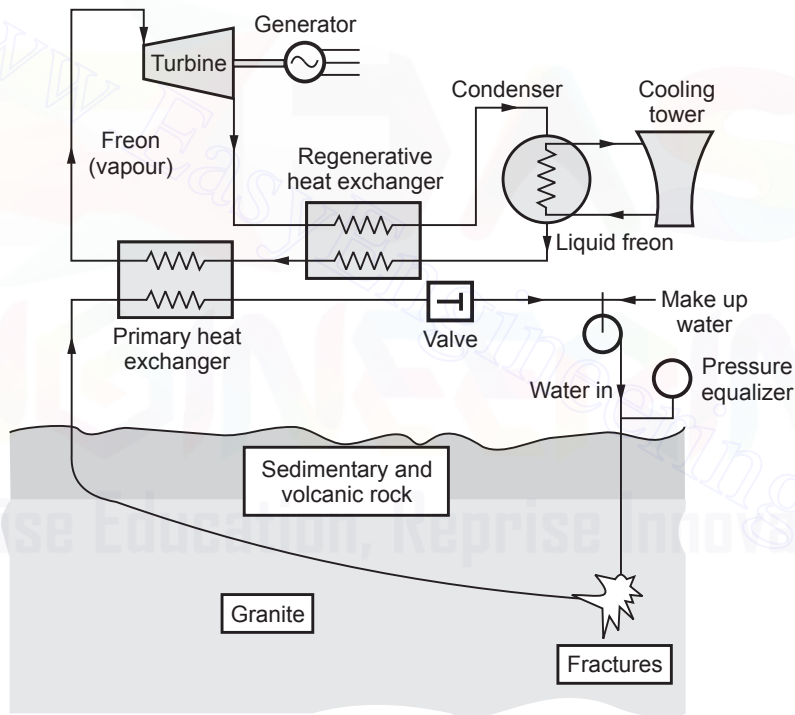

Fig. 5.6.6 Hot dry rock-binary fluid system
- Fig. 5.6.6 shows hot dry rock-binary fluid system.